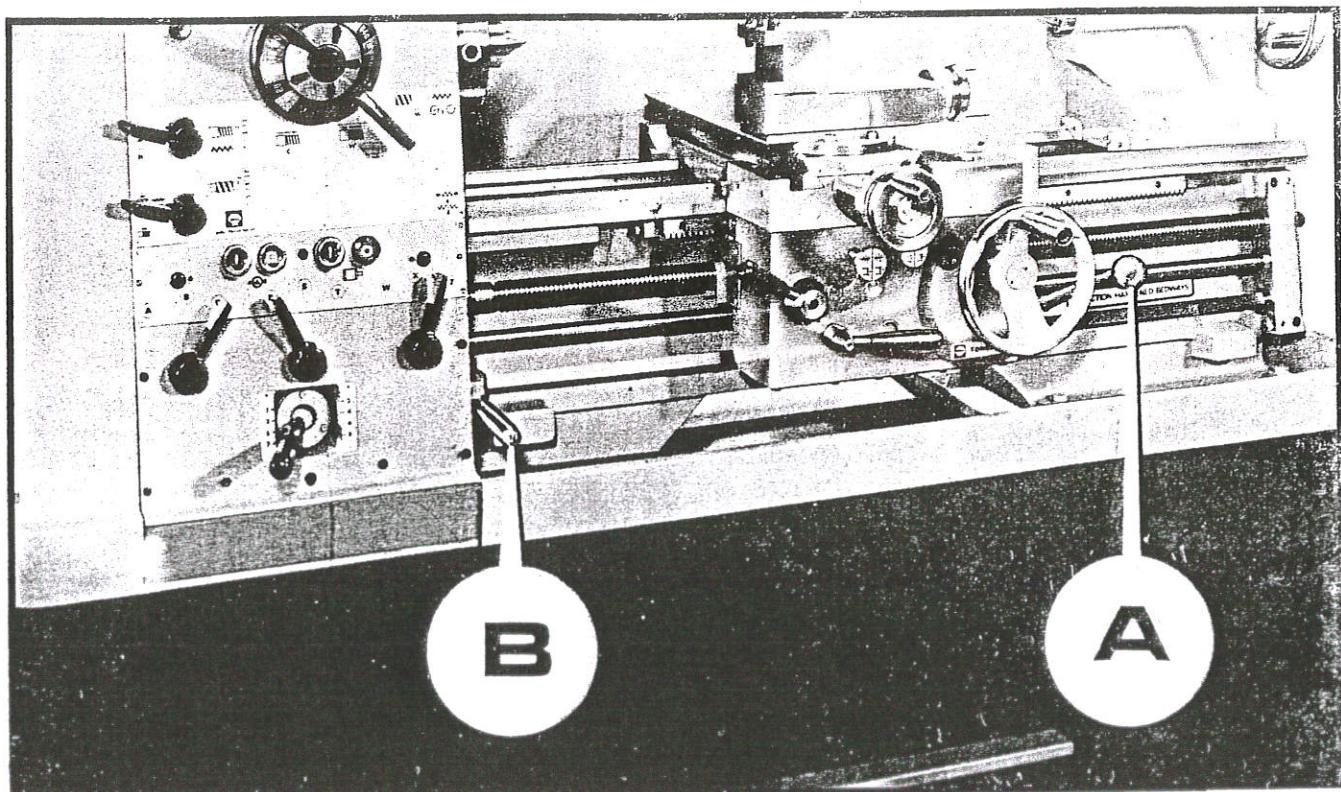

Fig. 8
Spindle Rotation: Selected by the lever controls A and B (Fig. 8). The apron lever (A) for forward, free and reverse selections, the lever (B) for reverse and free selections only.